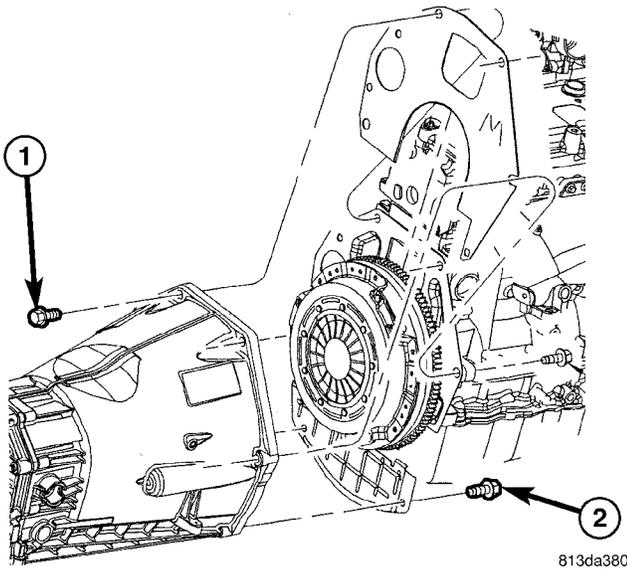

Fig. 118 2.4L ENGINE
(1) Install transmission on engine.
(2) On 2.4L engine tighten bolts (1) to 75 N·m (55 ft. lbs.). Install lower dust shield and tighten bolts (2) to 34 N·m (25 ft. lbs.) (Fig. 118).